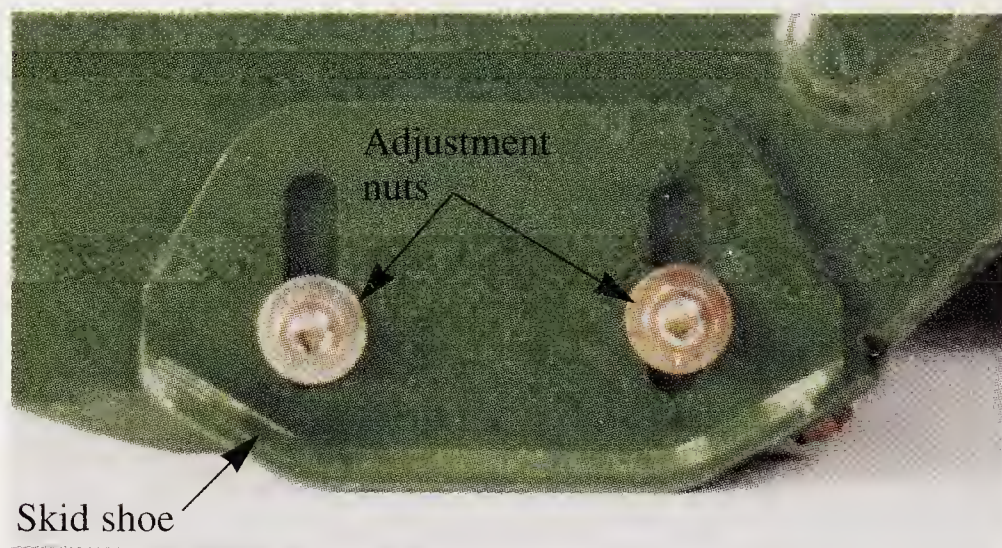

Figure 20-3. The skid shoe attached to the auger housing is adjustable to establish intake height and reduce wear on the housing edges.
5. Adjust skid shoes to clear gravel or crushed rock surface. See **Figure 20-3**. See *Adjusting Skid Shoes* section in this chapter for this adjusting procedure.